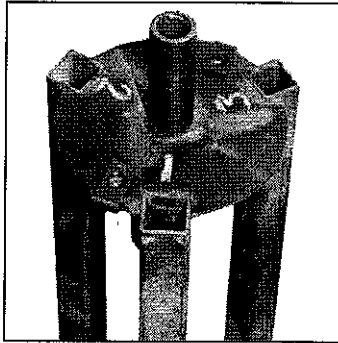

figure 26
- a. Number the tubes on the core as 1, 2, and 3 (figure 26).